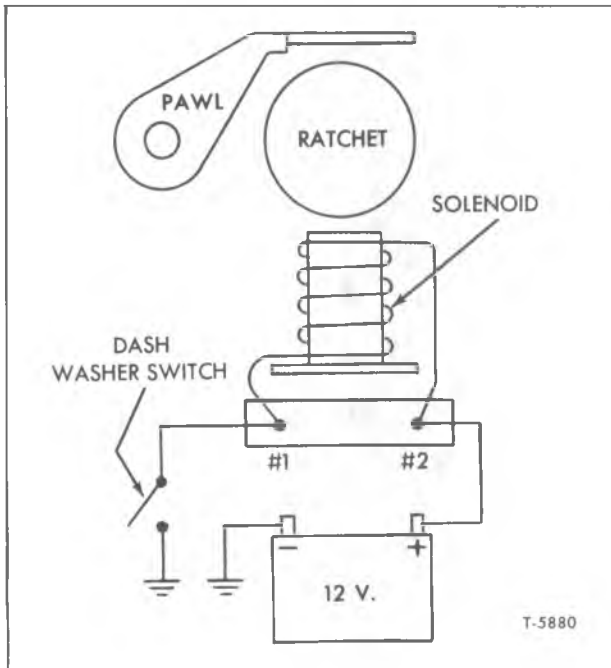

Figure 23—Checking Washer Solenoid
TROUBLESHOOTING WASHER PUMP (Refer to Fig. 23)
3. If all items in Step 2 check out, start wiper motor only, then push washer button and listen for "click" as washer solenoid pulls in. If no "click" is heard, check for 12 volts at terminal No. 2 (fig. 23). No voltage indicates defective wiring. If "click" is heard, proceed to Step 5.
4. If correct voltage was found in Step 3, connect a jumper wire from washer terminal No. 1 to ground (fig. 23) and operate wiper. If washer relay "click" is heard and pump functions correctly, a defective dash switch or an open circuit between washer pump and dash switch is indicated; "No Click" indicates an open pump solenoid.
2. Check relay coil as follows: Connect 12 volt supply to washer terminals (fig. 23). Observe if solenoid plunger pulls in. Failure of solenoid plunger to pull in indicates an open solenoid coil or poor solder connections.